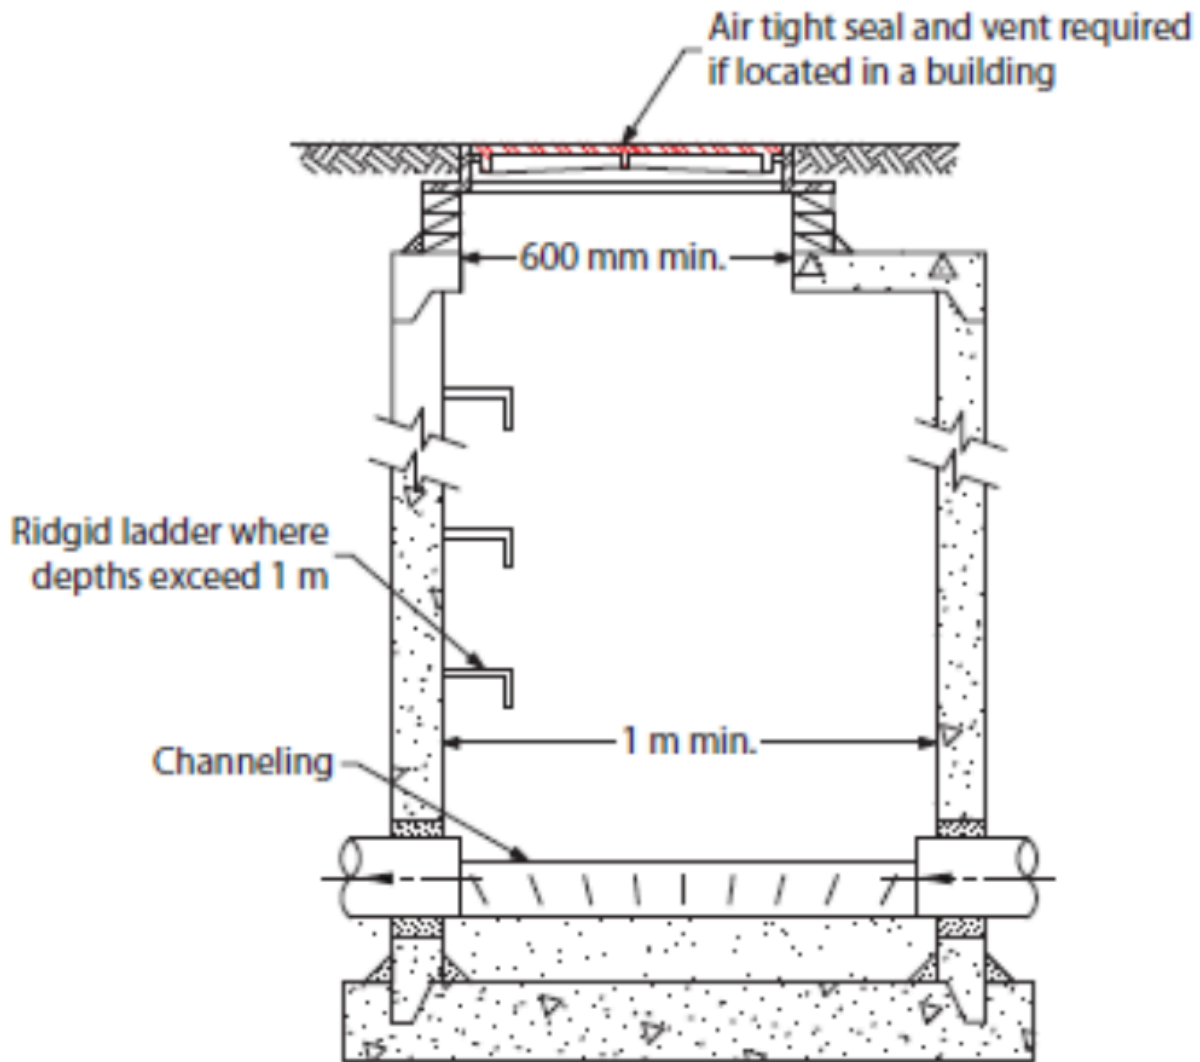

Figure 1 Concrete sanitary manhole
- Figure 1 Curb inlet catch basin by ITA is licensed under a CC BY-NC-SA licence (<https://creativecommons.org/licenses/by-nc-sa/4.0/>).